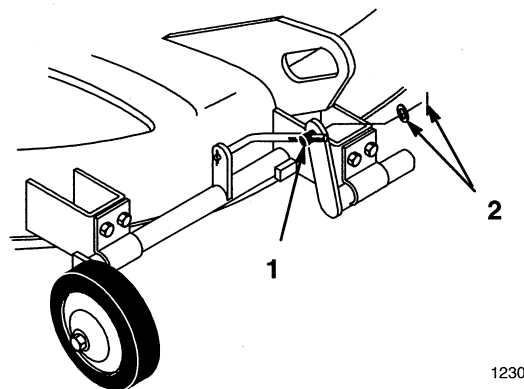

Figure 11
- Raise attachment lift lever to release pressure on the gage wheels. Remove hairpin cotter and washer from trunnion (Fig. 11).
- Rotate trunnion to adjust side-to-side level adjustment (Fig. 11).